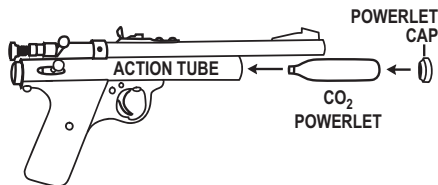

FIG. 2
A. Installing a CO₂ cylinder (See FIG. 2)